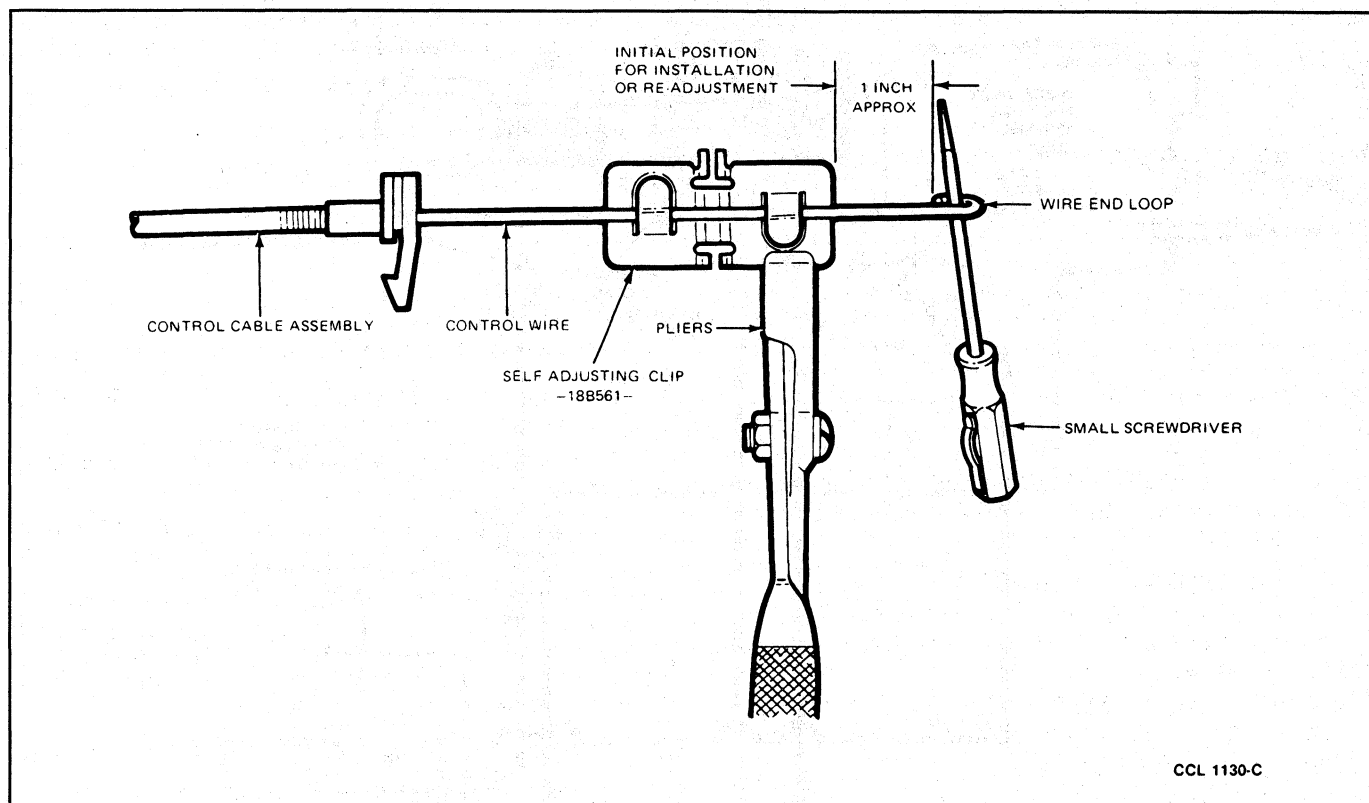

FIG. 13 Control Cable Preset Adjustment
1. Insert end of a small pocket screwdriver in end loop of temperature control cable, at crank arm (Fig. 13).
2. Hold crank arm firmly in position, insert blade of a small pocket screwdriver into wire loop (Fig. 13). Pull cable wire through self-adjusting clip until there is a space of approximately 25.4mm (1-inch) between clip and wire end loop.